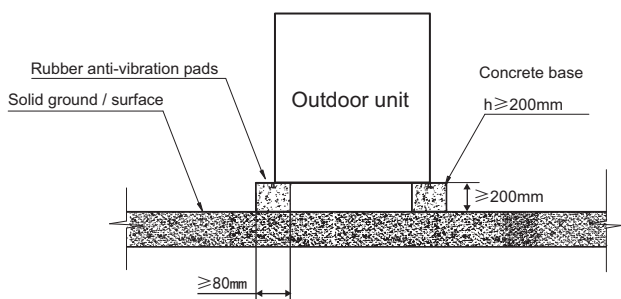

Fig.6-5 Front view of base structure
- 4) A typical concrete base design is shown in Fig. 6-5. A typical concrete specification is 1 part cement, 2 parts sand and 4 parts crushed stone with steel reinforcing bar. The edges of the base should be chamfered